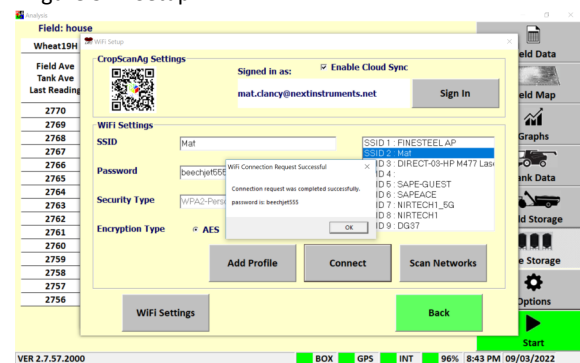

Figure 3-3. Wifi Hotspot Connection
- Press the **Connect** button and wait for a Wi-fi Connection Request notification as shown in figure 3.3.